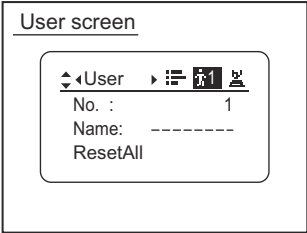

Fig1-3
1. User screen  ..... (See Fig. 1-3 below)